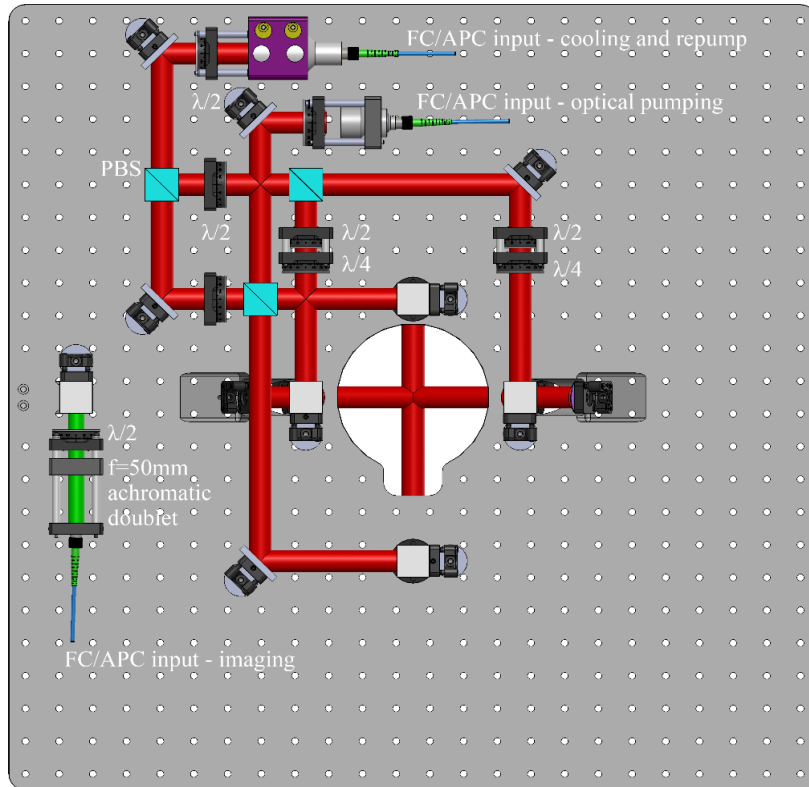

Figure 7: Bottom view of the six-beam MOT stage.
The six-beam MOT stage is an optical table that enables the user to build an experiment around the RuBECi or doubleMOT vacuum system. A top-view of the stage without the RuBECi is shown in Figure 7. These holes can be used for mounting user-supplied optics and hardware, such as imaging systems. Both FC/APC inputs for the 3D MOT are located on the underside of the physics platform. The FC/APC input for the imaging beam is under the platform as well; this is an optional setup depending on your specific experimental.
- **Locate the fiber collimation assemblies for the 3D MOT in Figure 7 below.**